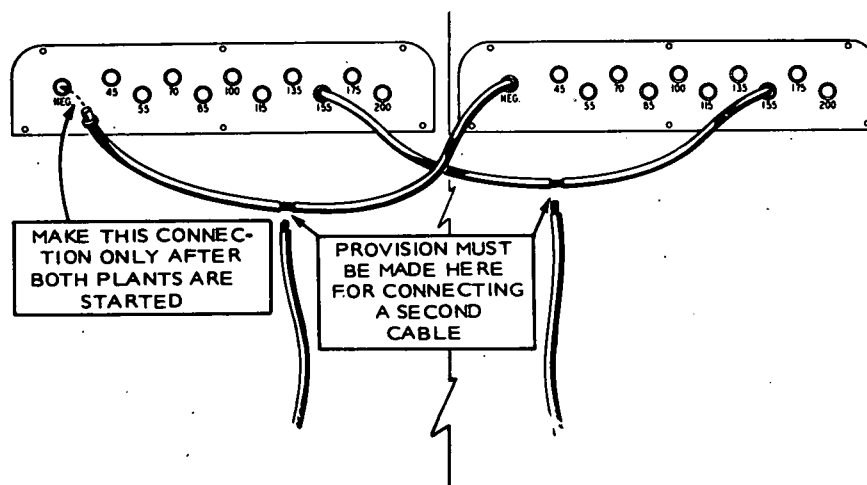

FIGURE 6. WIRING CONNECTIONS FOR WELDING IN PARALLEL
Two welders can be connected in parallel whenever the current requirements are greater than those provided by one welder, Figure 6.
- a. Connect a cable between the preselected IDENTICAL current jack receptacles of the welders. This cable (Figure 6) must have some means of attaching a second cable by splicing, clamping, etc., which will ensure a tight connection.